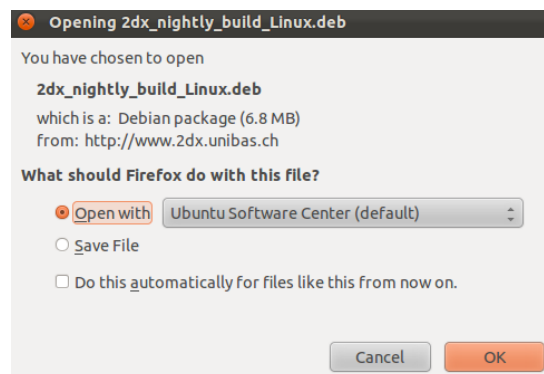

Figure 5: Download dialog on Ubuntu
1. If you download the package `2dx_nightly_build_Linux.deb` from our homepage Firefox asks you what you want to do with the downloaded file (Figure 5). The easiest way is to open the package directly with the Ubuntu Software Center by means of clicking "ok" in the shown dialog. Alternatively you can also download the package and then double-click on it.